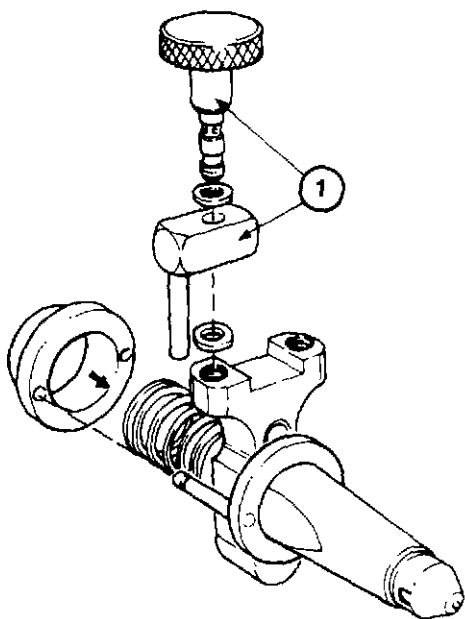

Fig. 3-24. Flanged Injector Adapter for 3375317
4. Select the proper adapter and link and position the injector in the machine, Fig. 3-24. The notches in the adapter must align with the two bars that protrude from the clamp plate.